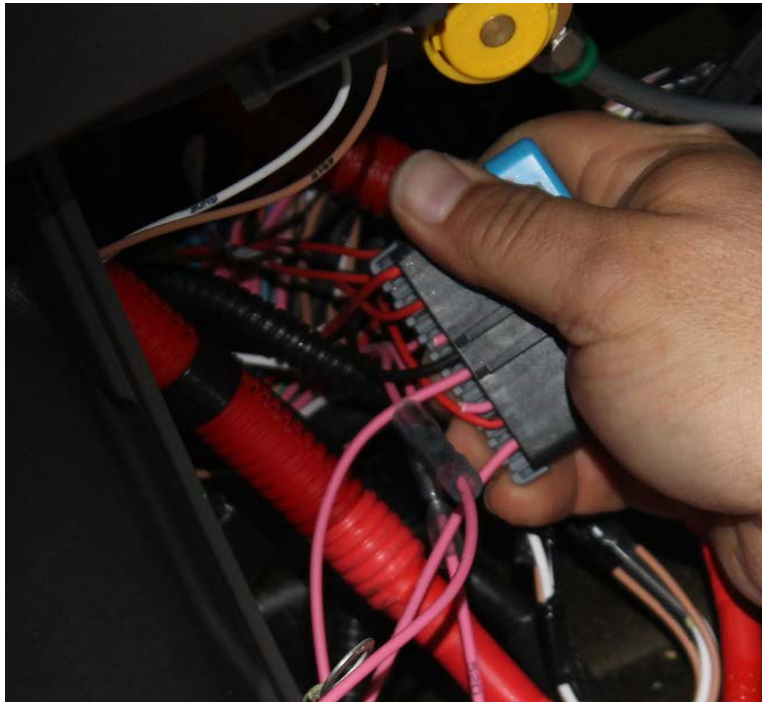

Figure 8: Completed Wiring Connections
11. Reinstall the gray wire "keeper" on the back side of the plug. See **Figure 8** for final installation.